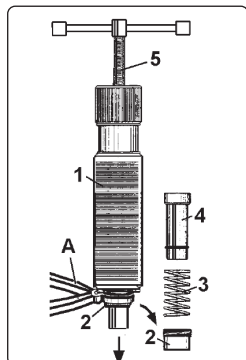

fig.3
- 6.3.1. Dismantle by removing the ram cover (fig.3.2) with soft jaw grips (fig.3.A) (body may have to be held in a soft jaw vice, ensure bodythread is not damaged).